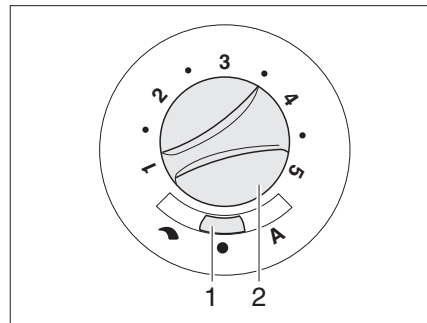

Fig. 109 Operating switch for circulation fan (12 V)
- Set sliding switch (Fig. 109,1) to "M" (manual control) or "A" (automatic operation).
- If "M" (manual control) is set on the sliding switch (Fig. 109,1): Turn the knob (Fig. 109,2) to the required position of the circulation fan.
- Set the sliding switch (Fig. 109,1) to "●" (off). This switch setting has no function in heating operation.